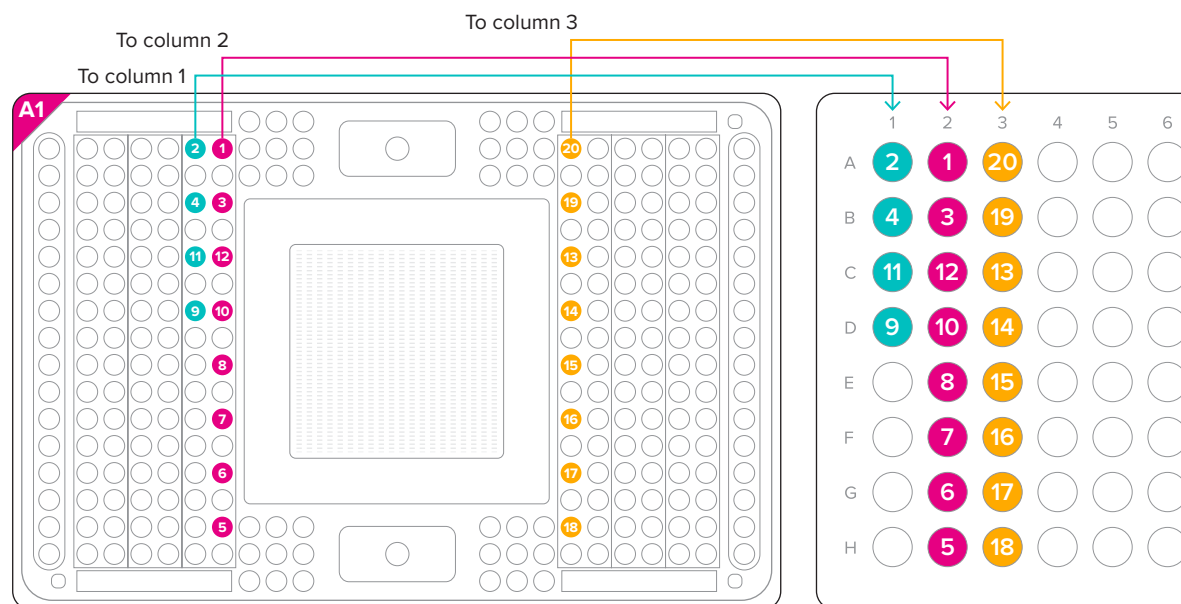

Figure 7. HT IFC harvest pipetting map
- 6** Using a multichannel pipette set to 5 μ L, transfer the harvested amplicons from each column of inlets and into the corresponding wells of a 96-well PCR plate (see Figure 7).